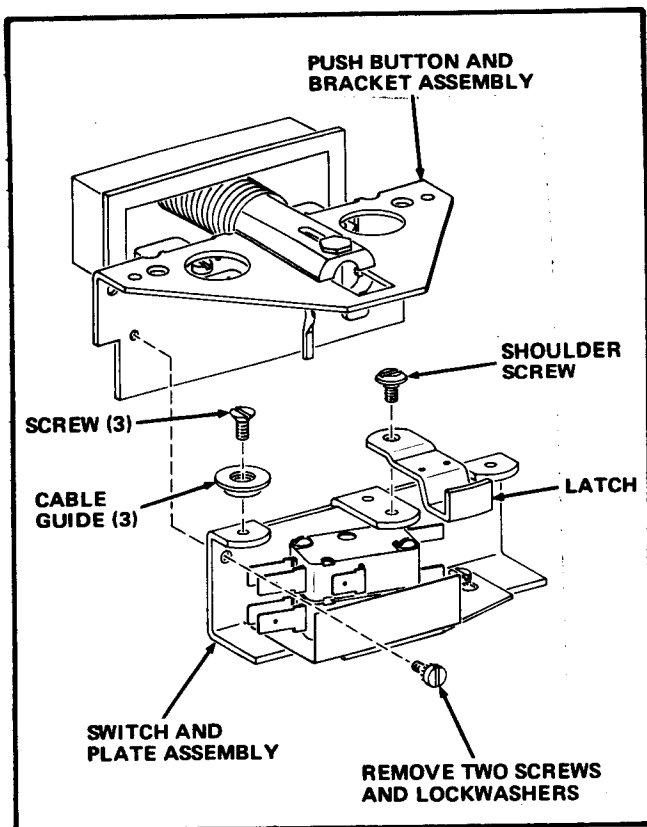

FIGURE 18
1. Remove the 2 Screws and Lockwashers which attach the Switch and Plate Assembly to the Push Button and Bracket Assembly. See Figure 18.
2. Slide the Switch and Plate Assembly off of the Push Button and Bracket Assembly. See Figure 18.
3. Remove the Screw which attaches each of the 3 Cable Guides to the Switch and Plate Assembly and remove the Cable Guides. See Figure 18.
4. Remove the Shoulder Screw which attaches the Latch to the Switch and Plate Assembly and remove the Latch. See Figure 18.